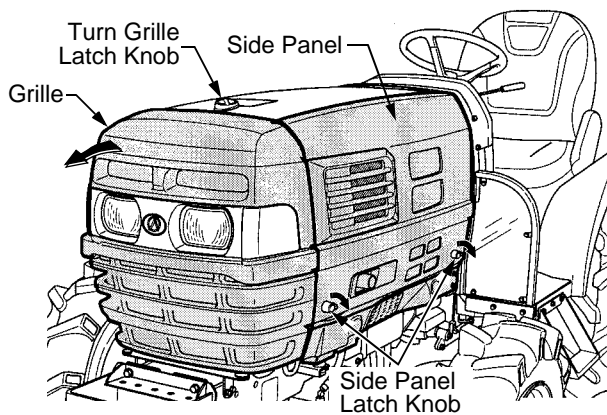

Figure 49
To open the front grille, turn the latch knob at the front of the hood and pivot the top of the grille forward. See Figure 49.
- Locate the two latch knobs at the bottom corners of the side panel and turn the handle of the knobs downward. Refer to Figure 49.